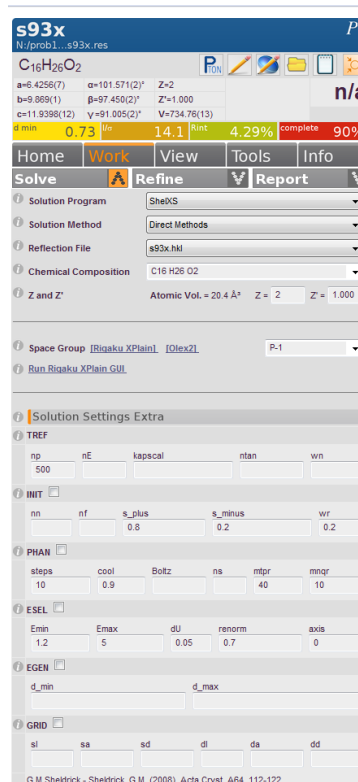

Figure 2. The Solve GUI upon starting a project
- This will bring up the Solve GUI as shown in Figure 2. Clicking any of the grey headers (Solution Settings Extra, Toolbox Work, History, etc.) will expand those sections. Click the Solution Settings Extra header now.